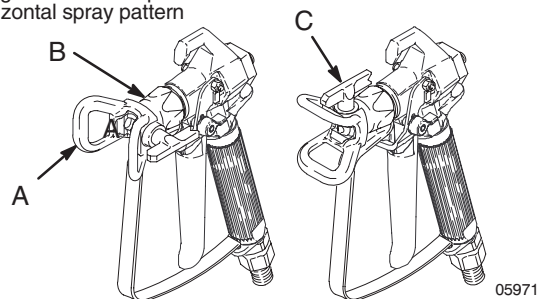

Fig. 3
1. To adjust the spray pattern direction, follow the **Pressure Relief Procedure** on page 5. Loosen the tip guard retaining nut (B). Turn the tip guard/tip groove horizontally (C) for a horizontal pattern and vertically (A) for a vertical pattern. Tighten the nut. See Fig. 3.